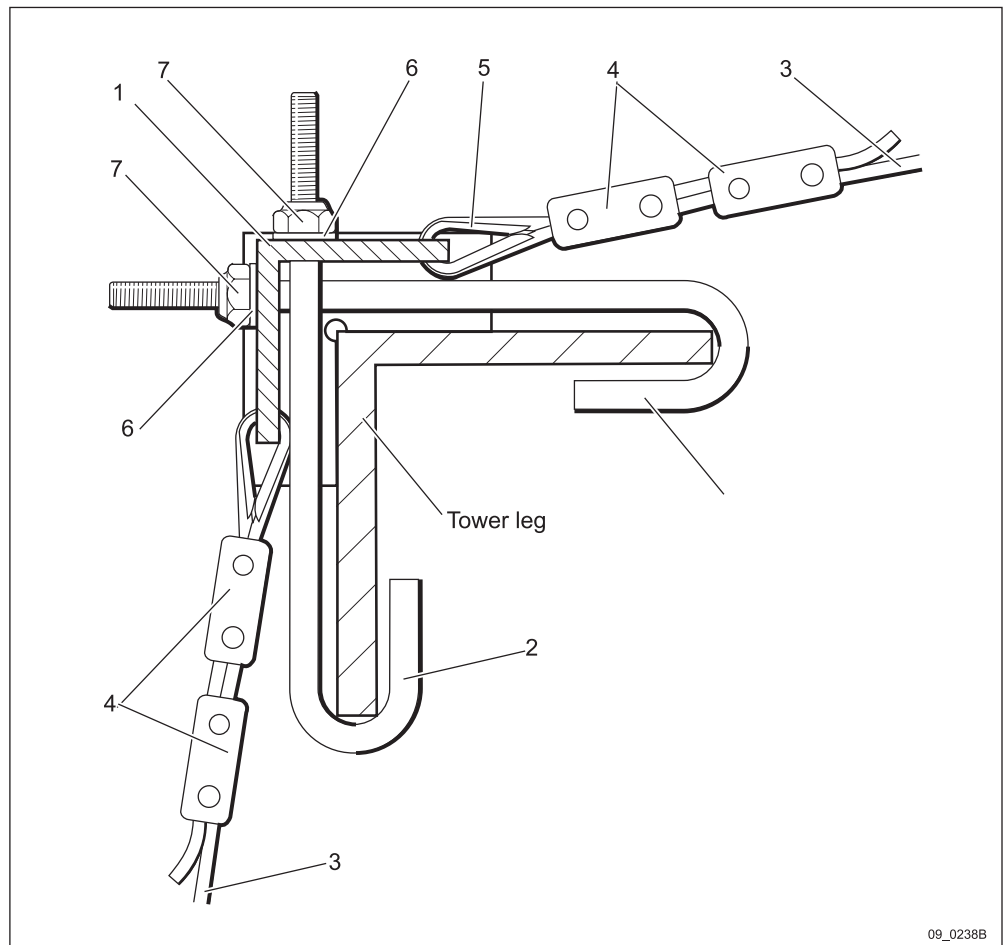

Figure 9
See figures 9 and 10.
2. Open thimbles, (pos 5) in figure 9, with a pliers just enough to insert them into the holes in the attachment then close them again.